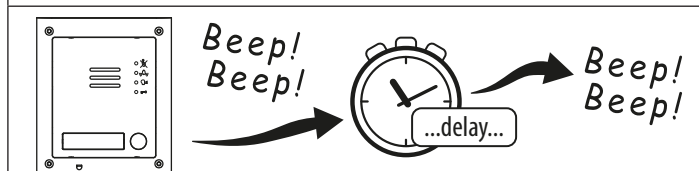

Fig. 64
3. Power up the GSM PRO module, 2 beeps will be heard followed by a brief delay and then a further 2 beeps, as shown in **Fig.64**.